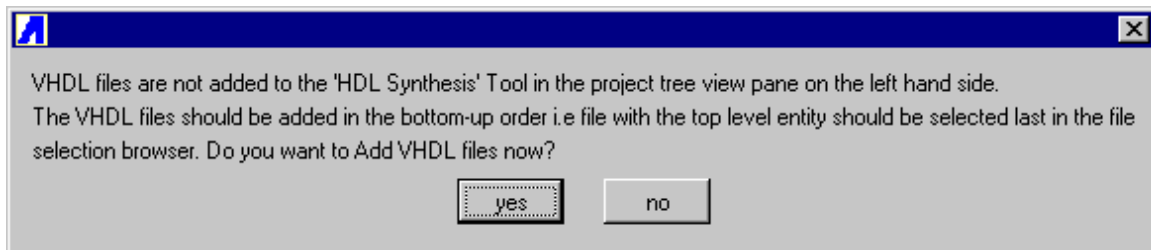

Figure 14 VHDL Files
1. Press the **Synthesis Tool** button, a dialog appears, see **Figure 14**.